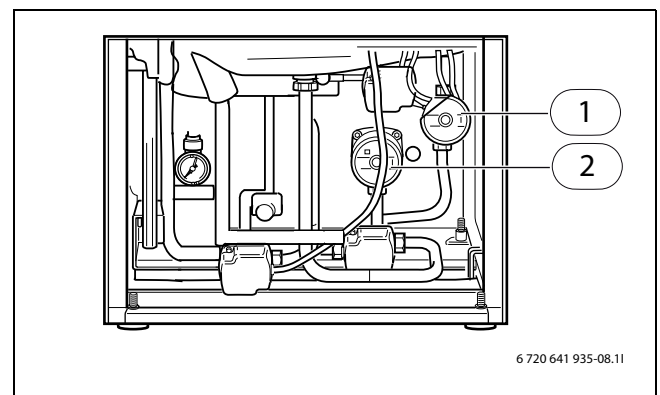

Fig. 53 Connection chamber, internal unit
- ▶ Check whether the heat pump has stopped (→ Fig. 53 on page 41).
- ▶ Check whether the primary heating circuit pump has stopped (→ Fig. 53, [1], page 41)..